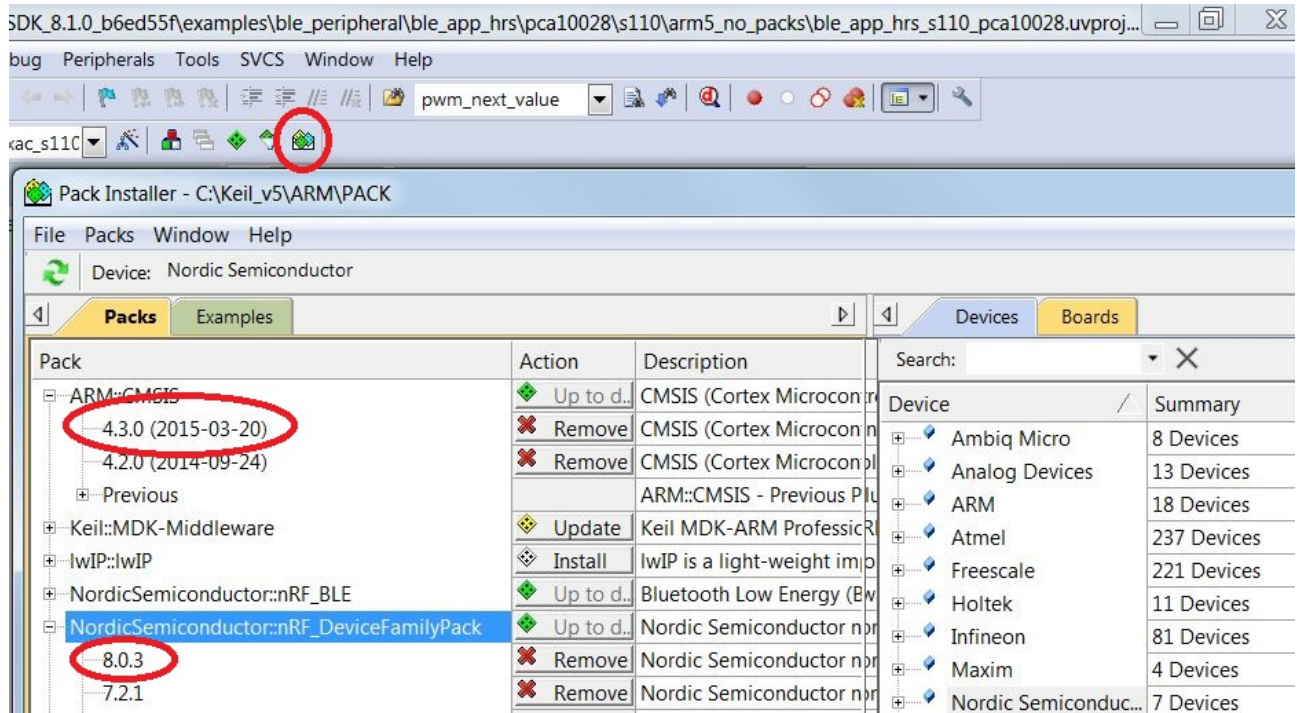

Figure 2: Selecting packs in Keil
1. Install DeviceFamilyPack v8.0.3 or newer, and ARM-CMSIS pack v4.3.0 or newer, as shown in Figure 2: Selecting packs in Keil on page 12.